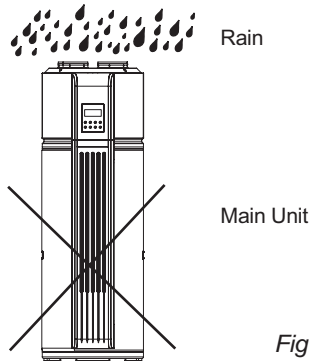

Fig. 5-7
- Warning! If case of rain entering internal components of main Unit, the components might be damaged or injuries might be caused to persons (Fig. 5-7).